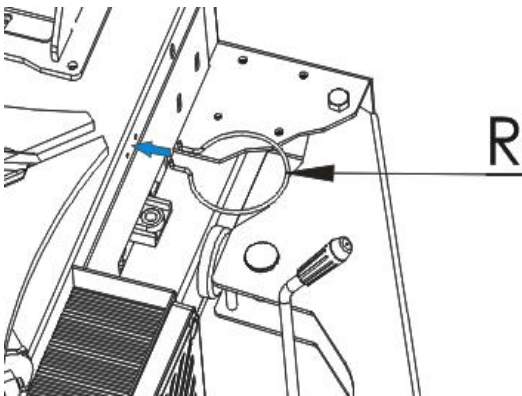

Fig. 9
- As fig.9 Insert the two heads into two $\phi 5$ holes in the right side of column, make sure R heads, hook is upward.